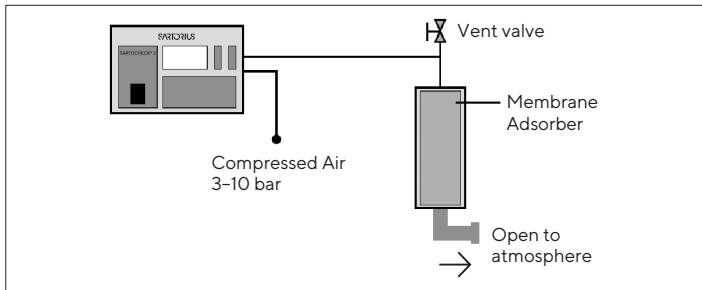

Fig. 8: Set up of diffusion test with Sartocheck®.
- ▶ Install adsorber as shown in Fig. 8.